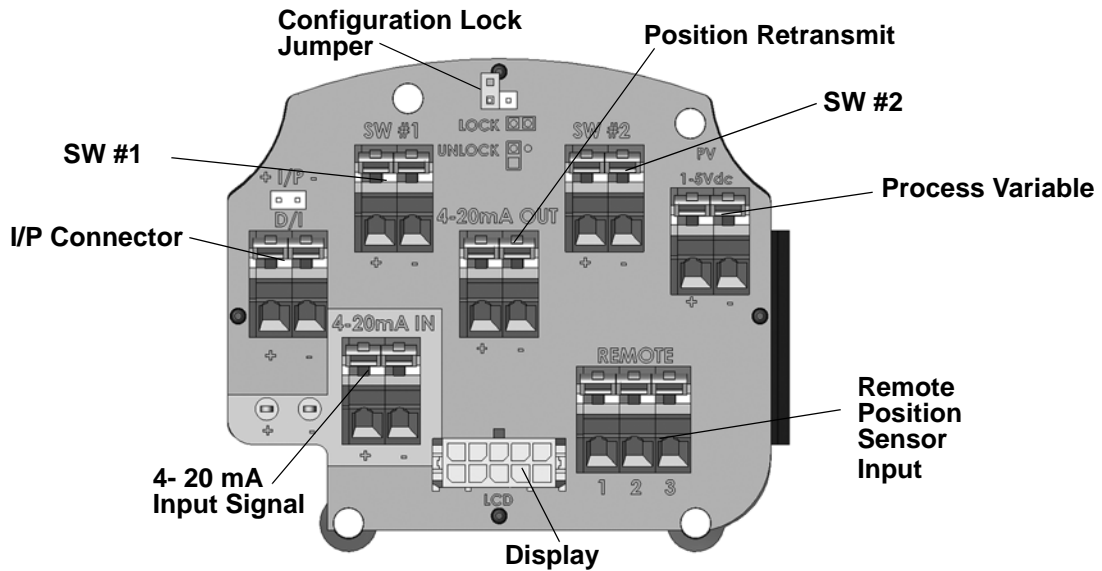

Figure 27 Connections to Electronics Module (via Terminal Board)
2. Locate the correct terminal block on the terminal board (see Figure 27 on page 41).
1. Loosen the four (4) cover screws and remove the SVI II AP cover.
2. Connect the +/- terminals from the SVI II AP to the current source. Connect + to + and - to - (Figure 27 on page 41).
Additional security is achieved using the hardware configuration-lock jumper shown in Figure 27 on page 41. When set to the secure position, by shorting the two-pin header, configuration and calibration are not possible using the local interface or any HART communication tool. Pushbuttons, ValVue and HHC 375 are locked out, except to examine configuration, calibration, and position. This is similar to Security Level 1 shown in the Pushbutton Lock Security Level table.